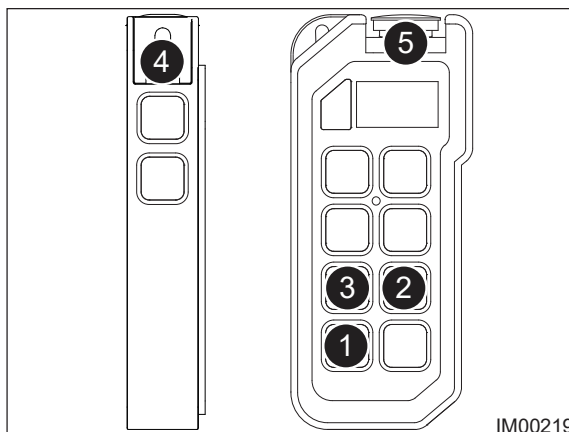

Fig: 9.10 - Radio Remote
3. On the radio remote handset, press the Vibrating Screen Box button (Item 1, Fig: 9.10).
4. Press the Collection & Fines Conveyor button (Item 2, Fig: 9.10).
5. Press the Oversize & Middle Grade Conveyor button (Item 3, Fig: 9.10).
6. Place the Toggle switch (Item 4, Fig: 9.10) in the middle, Off position.
8. Turn off the radio remote handset by pressing the Red Stop button (Item 5, Fig: 9.10).